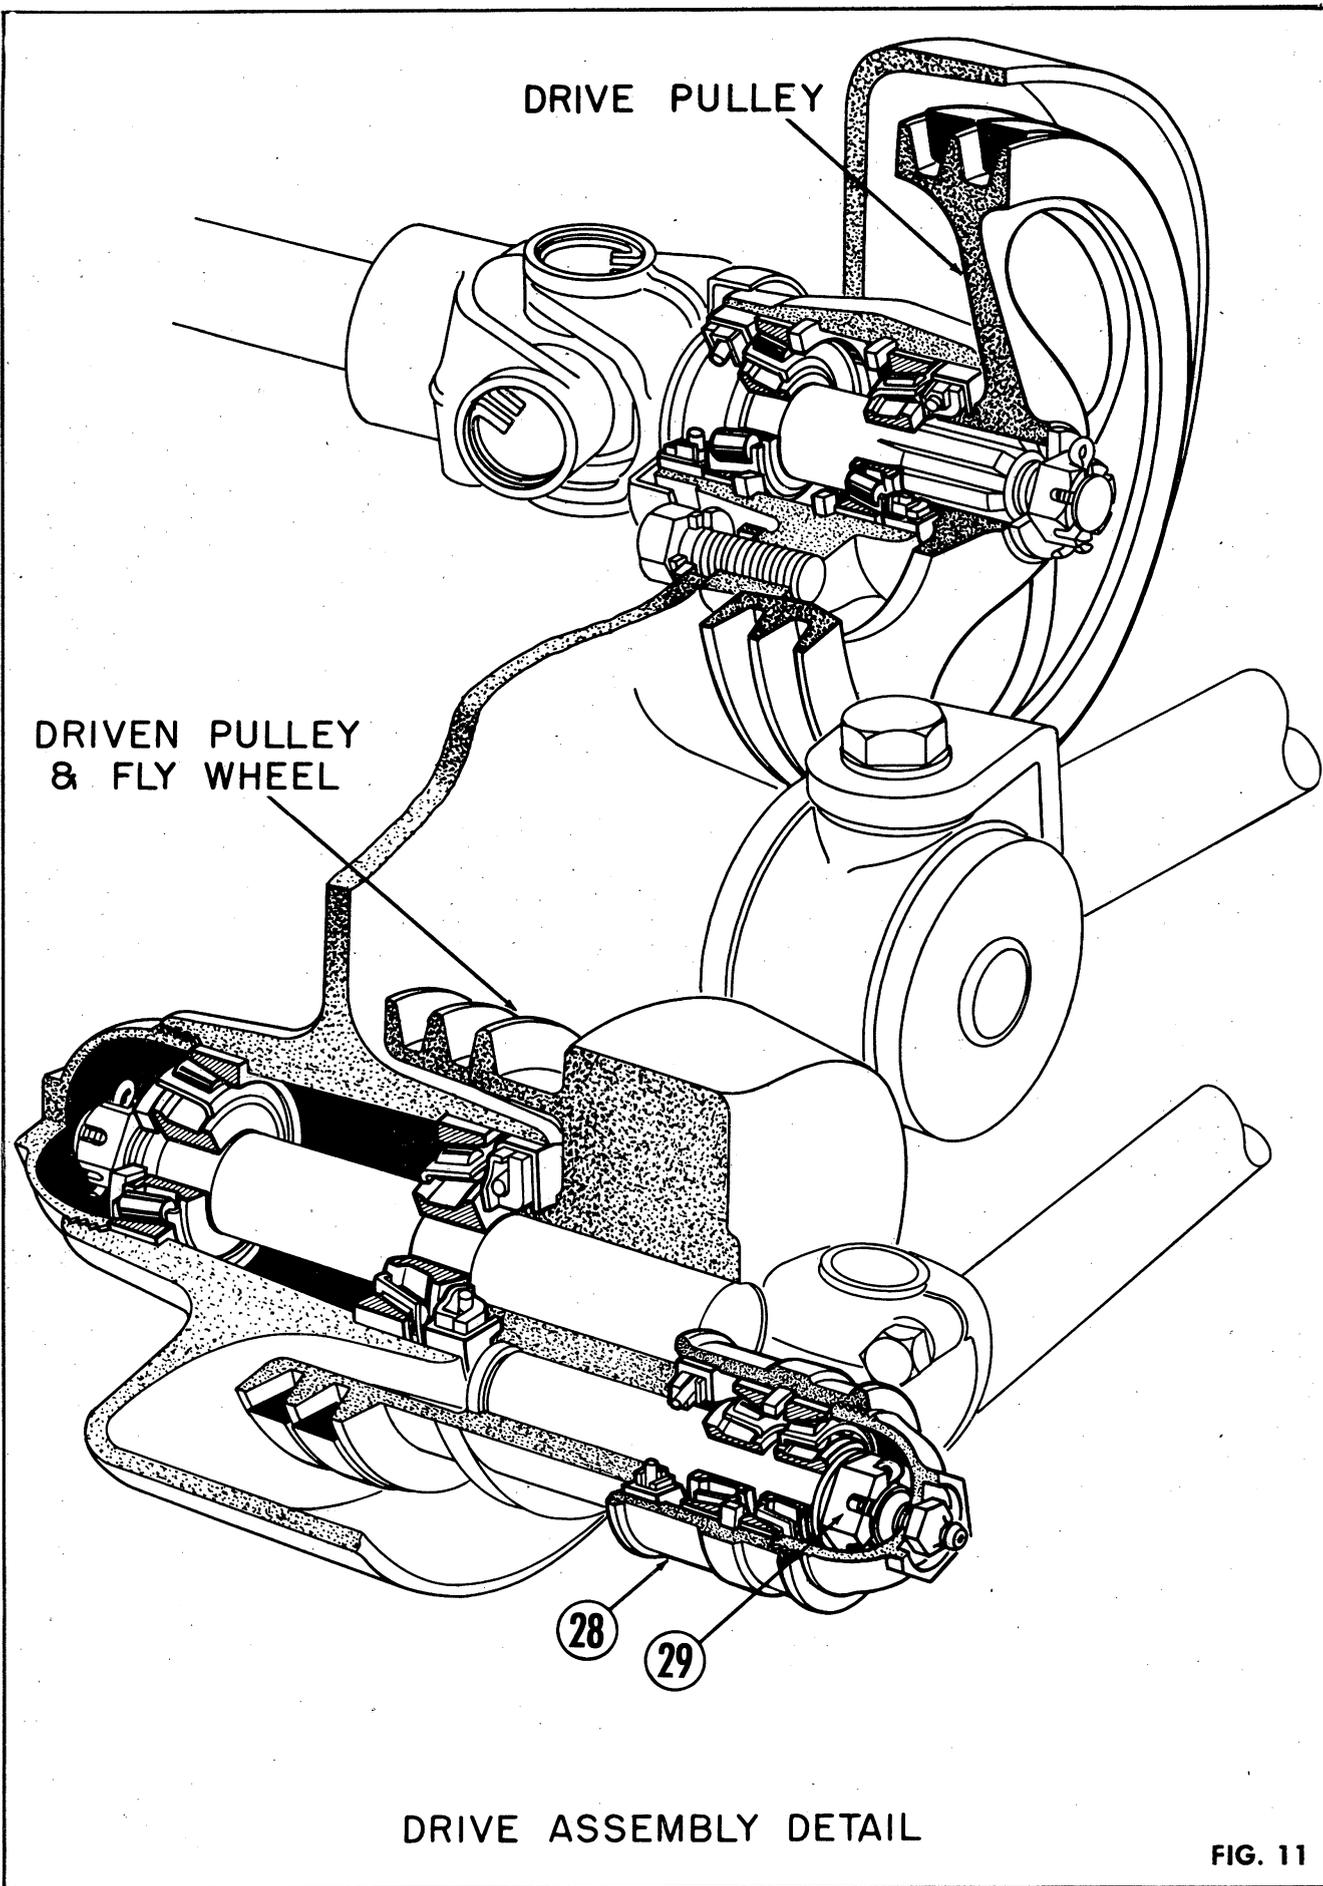

FIG. 11
The pitman box (28), Fig. 11, has two tapered roller bearings. End play in the pitman box may be removed by tightening the castellated nut (29) on the pitman pin, and backing off one castellation (1/6 turn). The cotter pin should always lock this nut in position.